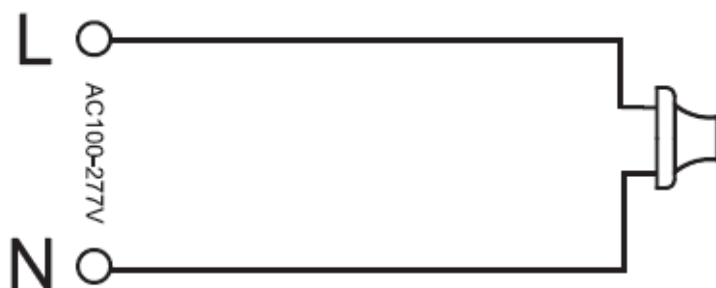

Fig. 3
4. Screw the LED lamp into the corresponding socket. Attach retrofit label to luminaire. (Fig. 3)